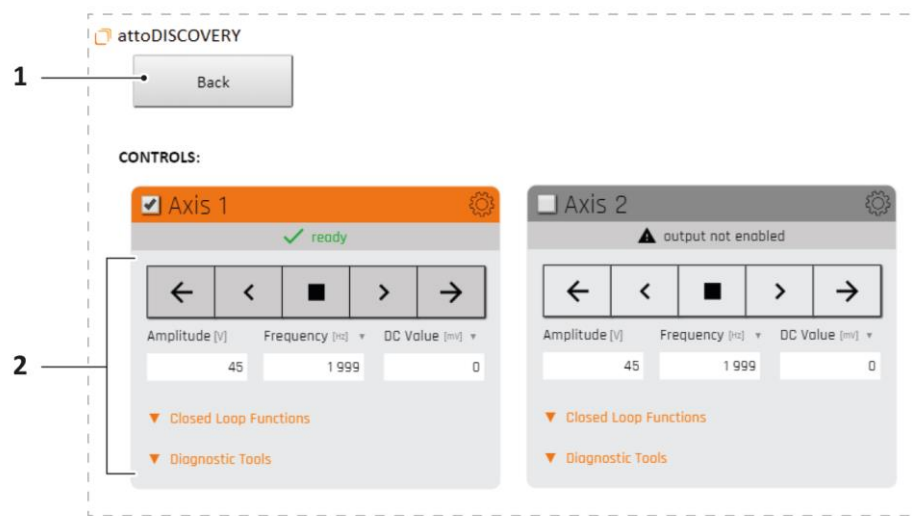

Figure 12 "Operation" screen
**Access** The "Find Devices" screen is the start screen of the actual attoDISCOVERY software. From the "Operation" screen it can be accessed by clicking [Back] (Figure 12/1).